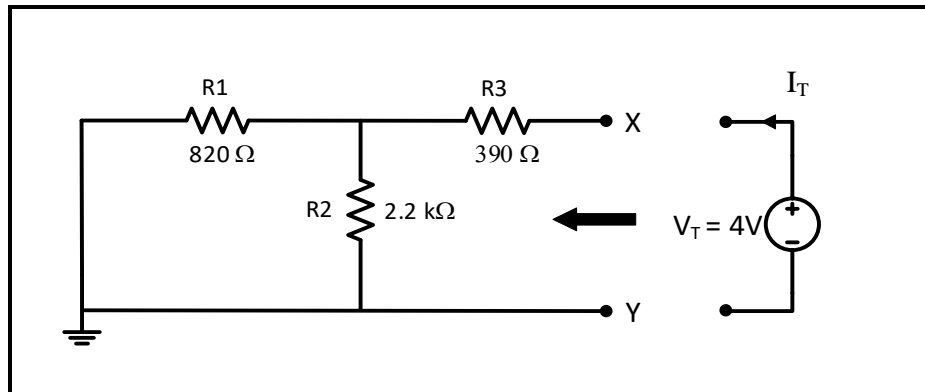

Figure 4.6
6. The second method to calculate R_{Th} is by using test voltage source. First kill all independent sources in the circuit (set the voltage source to zero as shown in figure 4.6)
8. The third method to calculate R_{Th} is by connecting an **ohm meter** between points X and Y in place of the test source in figure 4.6, **measure R_{Th}** , record result in Table 4.6.